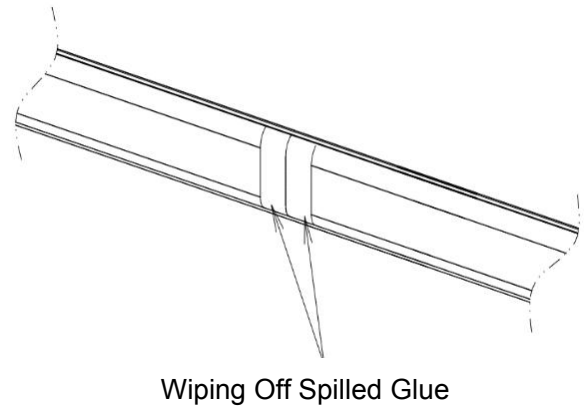

Figure 3-2
- 3) Remove the protection cover on the connection part, as shown in Figure 3-2.